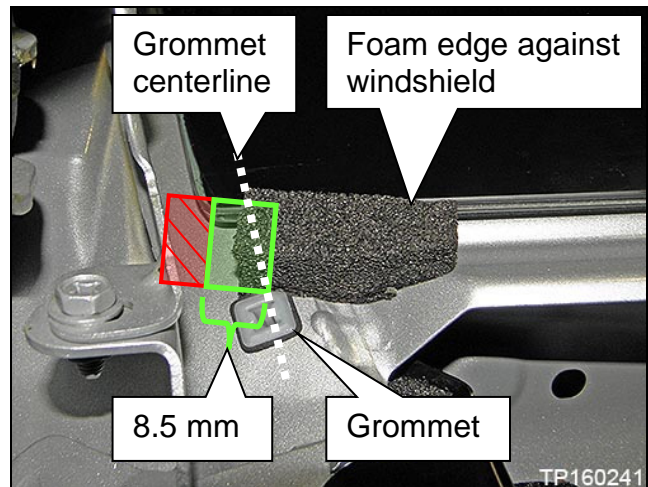

Figure 10
- b. Find the centerline of the farthest left "cowl cover assembly grommet" (grommet) shown in Figure 10.
- c. Measure 8.5 mm from the grommet centerline to the left (Figure 10).
- e. Align foam block against the lower edge of the windshield and left hand edge within the 8.5 mm area (Figure 10).